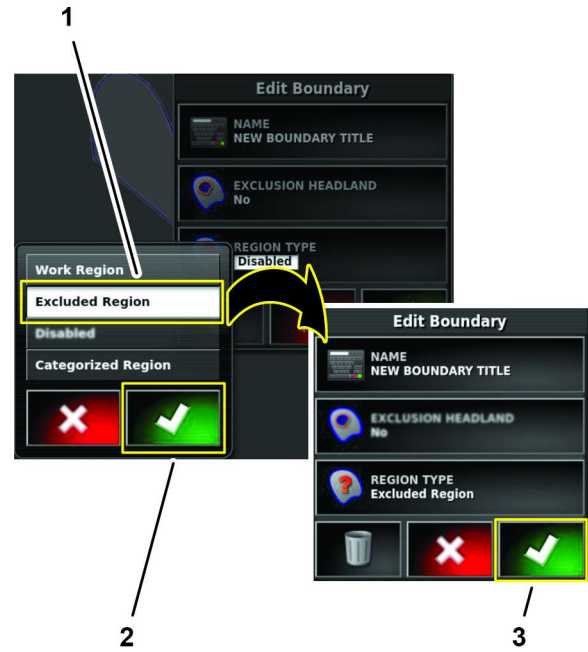

Figure 62
2. In the regions type dialog box, press the EXCLUDED REGION icon, and press the confirm icon (Figure 62).
3. In the edit boundary dialog box, press the confirm icon (Figure 62).